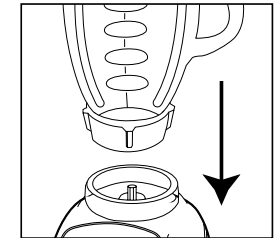

FIGURE 5
6. Place jar assembly onto base. (Figure 5)